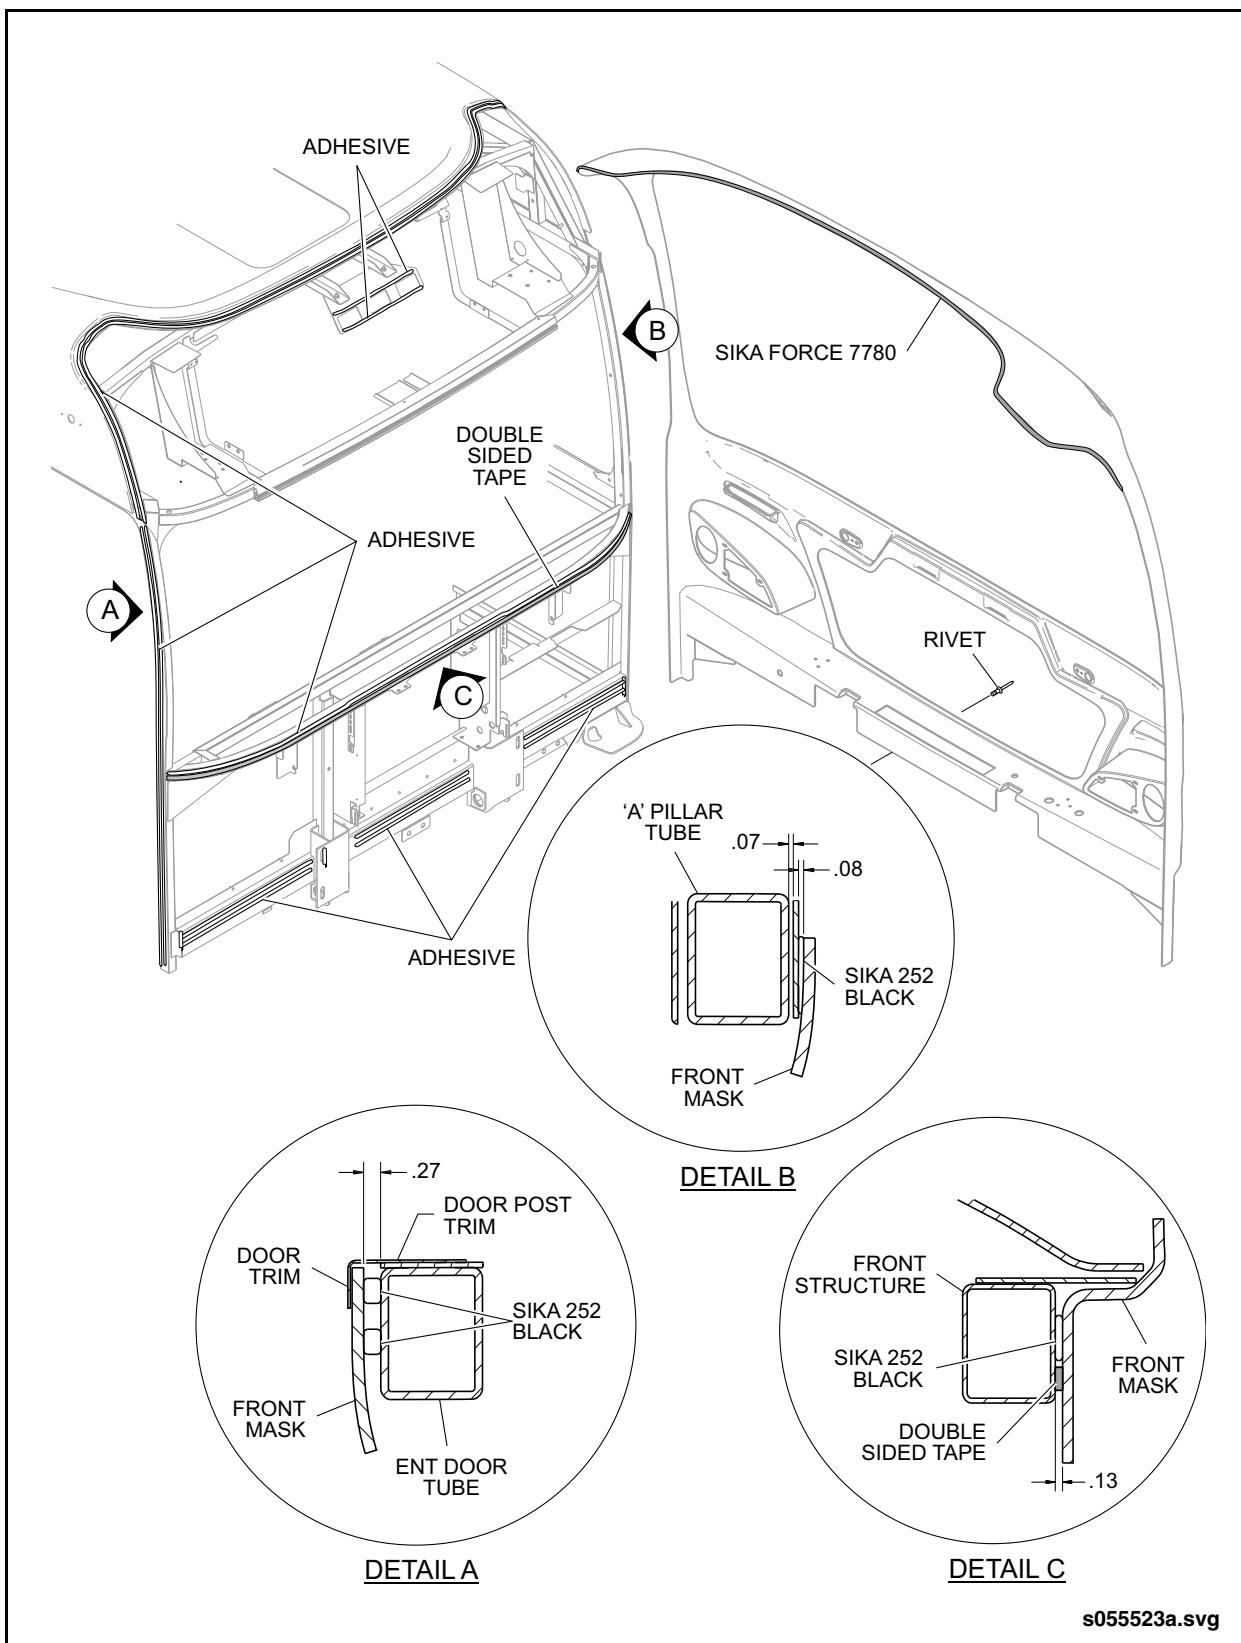

Fig. 13-4: Front Mask Panel Application
5. Clean panel and structure surfaces to be joined using Sika-205 Cleaner and a clean lint-free cloth. Allow to dry for 10 to 60 minutes. See "Fig. 13-4: Front Mask Panel Application" on page 19.